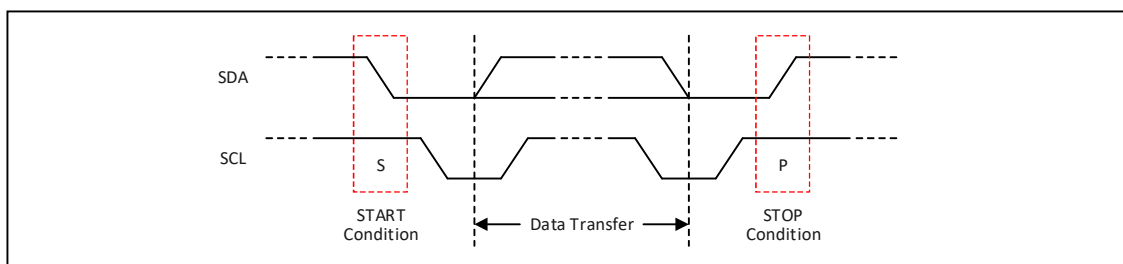

Figure 10. Definition of START and STOP Conditions
Both data and clock lines remain HIGH when the bus is not busy. I²C communication with this device is initiated by a master sending a START condition (S). A HIGH-to-LOW transition of the SDA data line input/output while the SCL clock is HIGH is defined as the START condition. A LOW-to-HIGH transition of the SDA data line input/output while the SCL clock is HIGH is defined as the STOP condition (P), is sent by the master (see Figure 10).